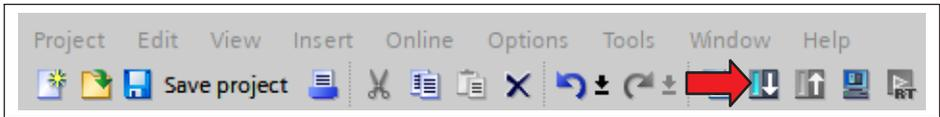

Fig. 6.12 Loading a program into the PLC
- ▶ To load the program into the PLC, click on the icon in Fig. 6.12.